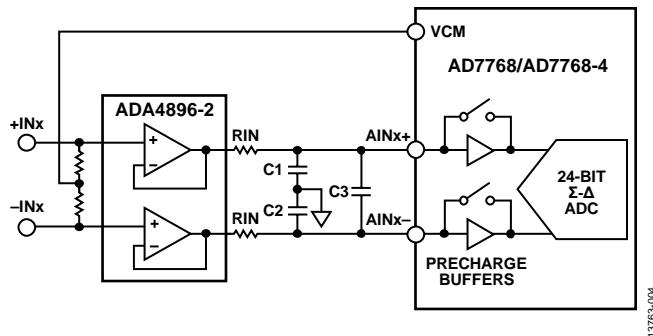

Figure 4. Typical Input Structure for an RC Network
There is a resistor/capacitor (RC) network between the amplifier output and the ADC input. Figure 4 shows a typical RC network used for the AD7768/AD7768-4 for most amplifier pairings. The RC network performs a variety of tasks. C1 and C2 are charge reservoirs to the ADC, providing the ADC with fast charge current to the sampling capacitors.